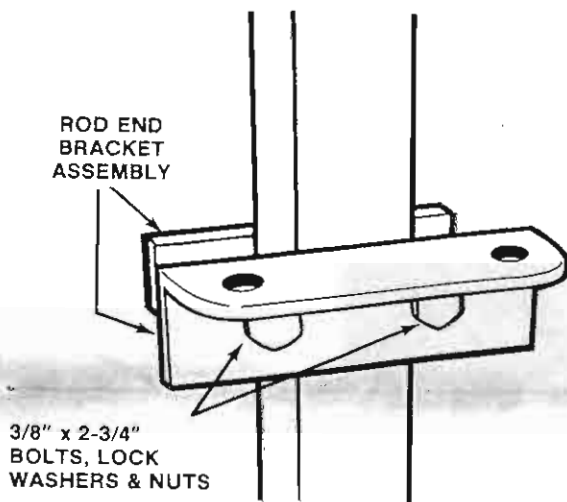

**FIGURE 5**
**STEP 5.** Stand reflector assembly up against mount and backup assembly. Orient mount so holes in reflector mounting brackets align with backup support assembly and attach reflector to backup assembly with four 3/8" x 2-1/2" bolts, lock washers, flat washers and nuts. See figure 5.